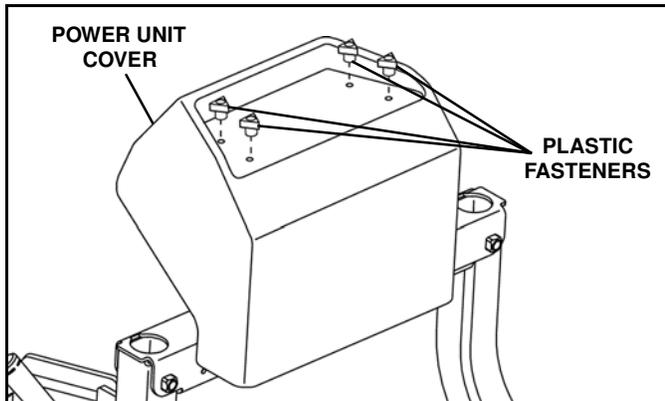

Figure 1-14
10. Remove four plastic fasteners and cover from power unit. (See Figure 1-14).